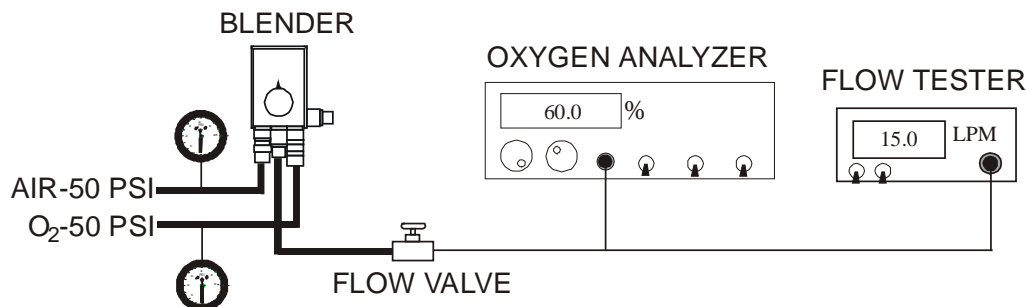

Figure 18
- 6.2.2. Connect the primary blender output to a flow valve capable of >50 LPM, a flow measurement device, and an oxygen analyzer per the manufacturer's instructions. Refer to Figure 18.
- 7.2. Set up as in Figure 18. Set the blender to 60%.
- 7.11. If there is a knob on the side of the blender, leave the set up as in Figure 18. Set the knob to the “less than (<)” indication, adjust the flow to 3 LPM and repeat 7.3 – 7.8 using this lower flow.